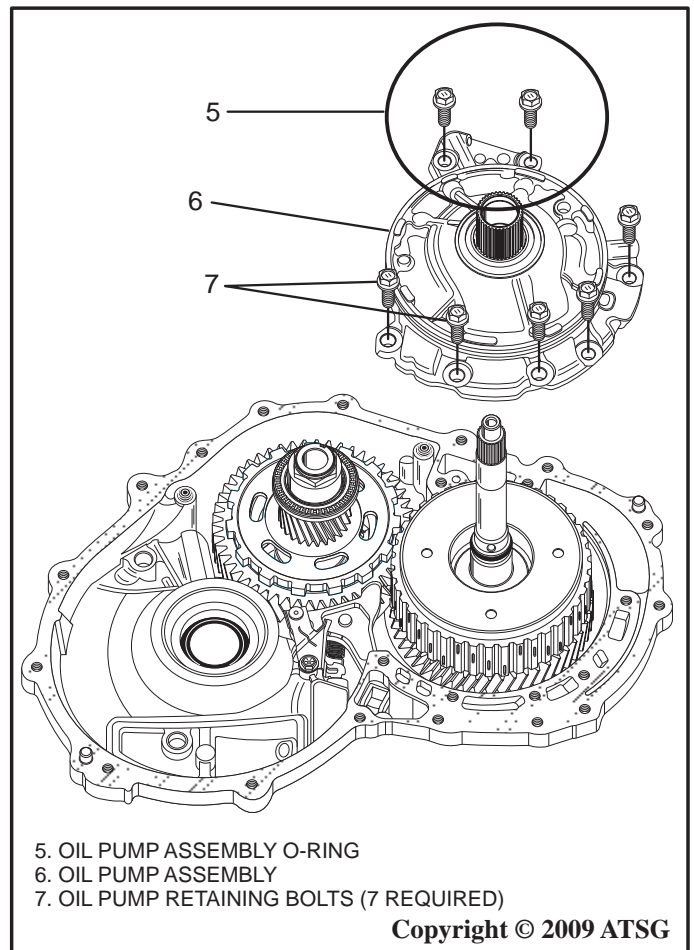

Figure 28
32. Remove the seven oil pump retaining bolts as shown in Figure 28.
33. Remove the oil pump assembly by lifting straight up as shown in Figure 28.
34. Remove and discard the oil pump assembly o-ring as shown in Figure 28.